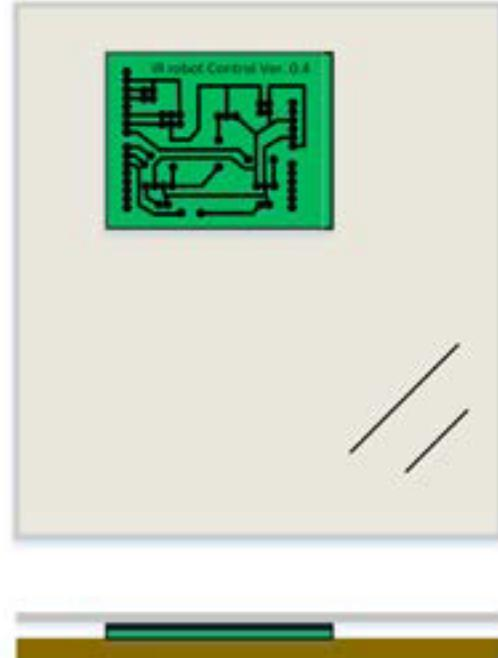

Figure HT10-1. Assembled “sandwich” as seen from top and from end
2. Make a "sandwich" of the carrier as follows and as shown in Figure HT10-1: